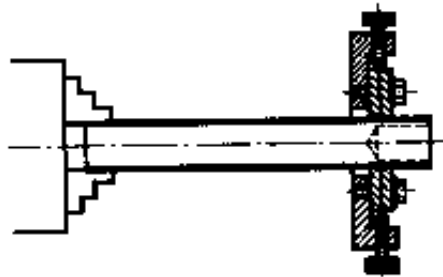

Figure 26 Use of the steady rest
- For freely rotating ends of the workpiece a steady rest can be used (see Fig. 26).